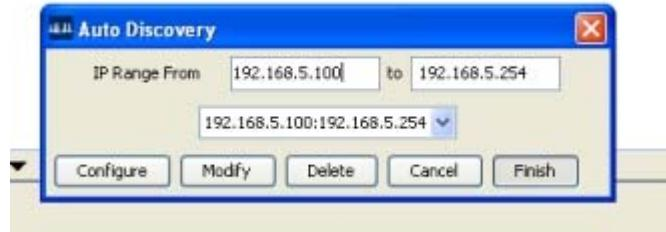

Figure 14-3: Auto Discovery
Step 3. Select the **Auto Discovery** option from the **Module Name** drop-down box. (See *Figure 14-3*)